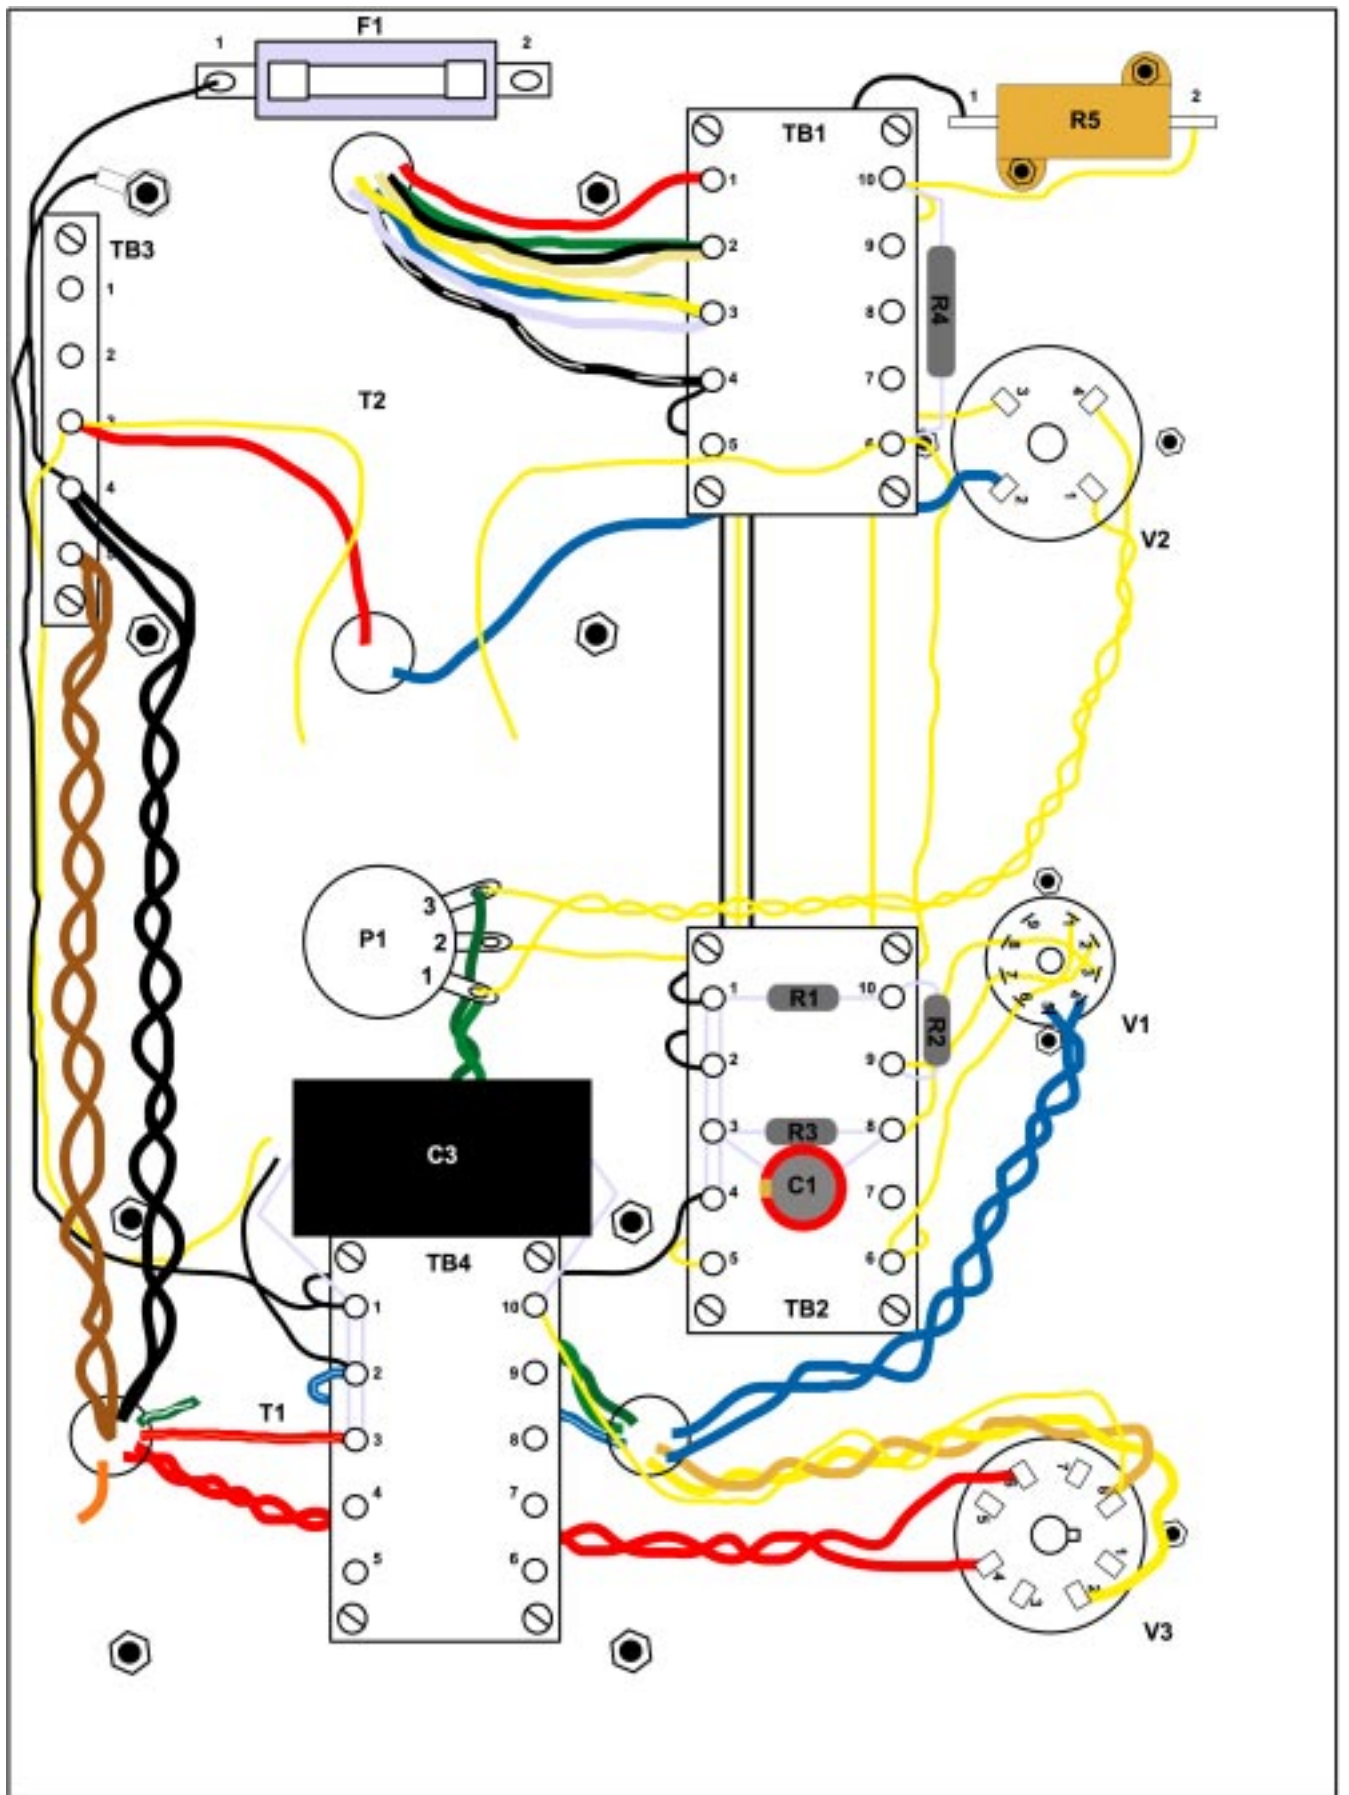

Figure 5
7) Now is a good time to inspect all connections and clean up any solder flux that may have splashed onto the terminal boards, top plate, etc. As the amplifier is populated with more components it becomes more difficult to position the soldering iron without touching already placed parts. It is very important that you be aware of these parts when soldering and not accidentally burn the insulation off an adjacent component or wire. For this next section, refer to figure 5 for all connections.
Solder resistor R1 between TB2-1 and TB2-10 as shown in figure 5.
Solder resistor R2 between TB2-10 and TB2-9 as shown in figure 5.
Solder resistor R3 between TB2-3 and TB2-8 as shown in figure 5.
Solder resistor R4 between TB1-10 and TB1-6 as shown in figure 5.
Solder capacitor C1 between TB2-3 and TB2-8 as shown in figure 5. Note C1 capacitor is polarized. The capacitor lead adjacent to the band on the body of the capacitor is the negative lead and should be soldered to TB2-3.
Solder capacitor C3 between TB4-1 and TB4-10 as shown in figure 5. C3 is not polarized.